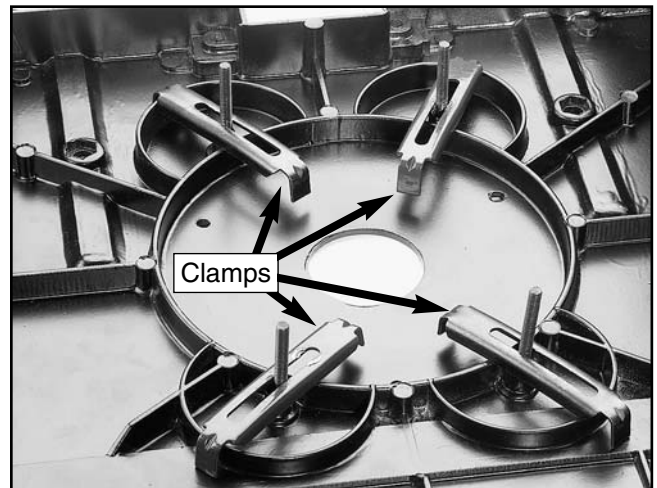

Figure 8. Clamps for securing "Method 2" style routers to the main table.
4. Slide the four clamps over the ends of the carriage bolts with the tabs facing the underside of the main table as shown in **Figure 8**.